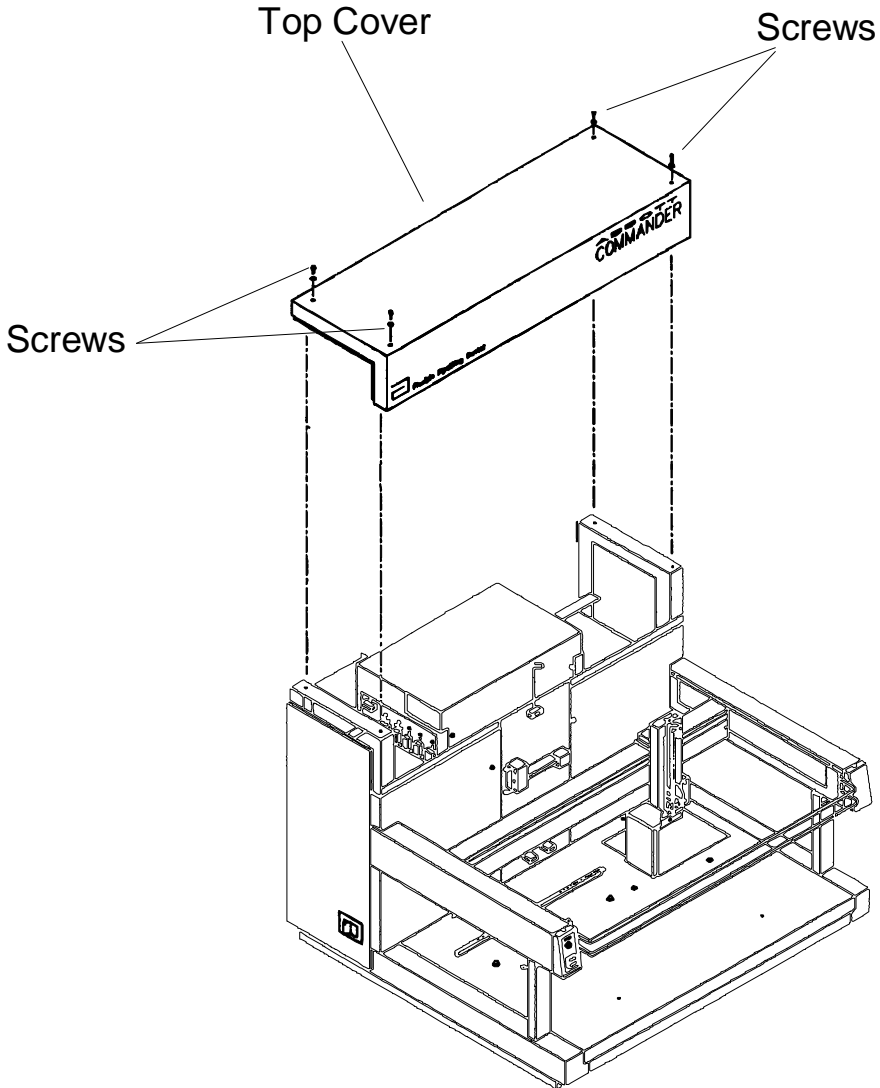

Figure 2. Upper Cover Removal
3. Remove the upper cover by removing 4 screws from the top of the cover as shown in Figure 2.